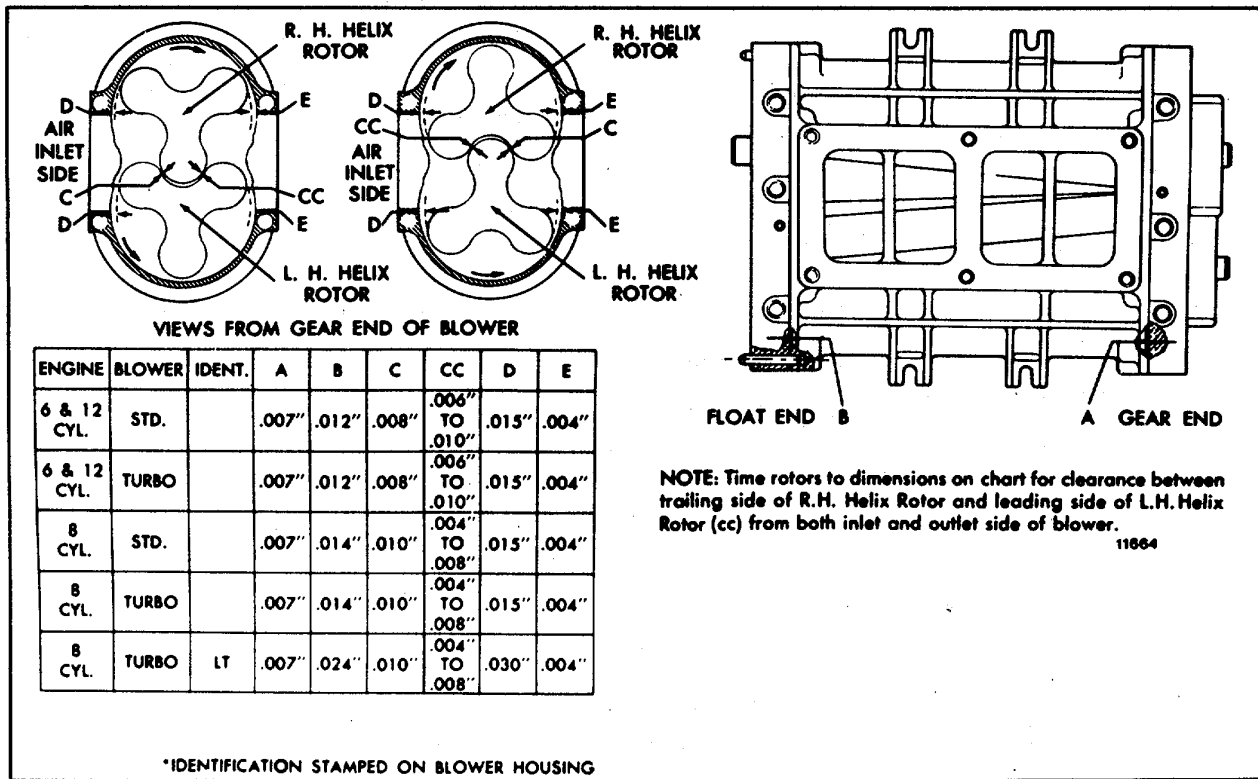
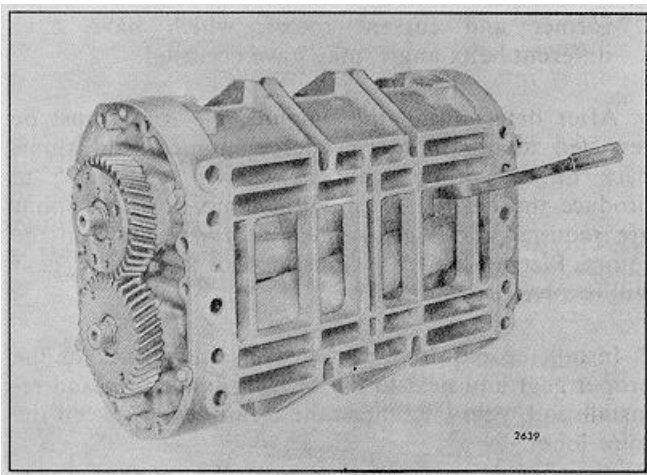

FIG. 24 - Chart of Minimum Blower Clearances
FIG. 26 - Measuring End Clearance Between Blower Rotors and End Plate
4. Make a preliminary check of the rotor-to-end plate and rotor-to-housing clearances at this time with a feeler gage as shown in Fig. 26. Refer to Fig. 24 for minimum blower clearances.
8. Determine the minimum clearances at points "A" and "B" shown in Fig. 24. Insert the feeler gages, as shown in Fig. 26, between the end plates and the ends
of the rotors. This operation must be performed at the ends of each lobe, making 12 measurements in all. See Fig. 24 for the minimum clearances.
9. Check the clearance between each rotor lobe and the blower housing at both the inlet and outlet side -- 12 measurements in all. Refer to Fig. 24 for the minimum clearances.